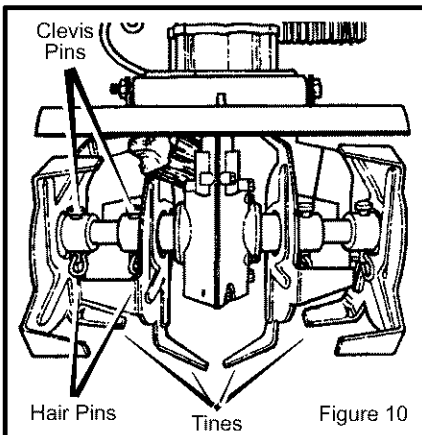

Figure 10
3. While wearing gloves, remove the **hairpins** and **clevis pins** that secure the tine assemblies to the shaft (see Figure 10). Remove the **tines** from one side of the unit.
4. Mount the outside tine on the tine shaft and fasten with the **clevis pin** and **hairpin** (see Figure 10).